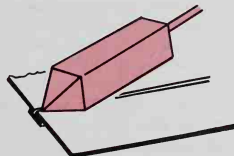

Fig. 5-50. Hold one face of the soldering copper flat against the surface of the metal.
7. Place one face of the copper flat against the metal at one end. Hold it there until the solder melts, Fig. 5-50.